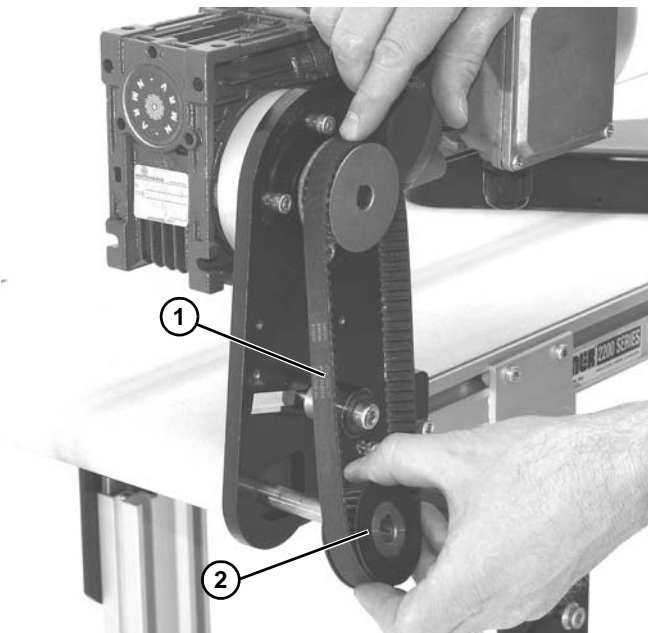

Figure 24
3. Remove timing belt (**Figure 24, item 1**).
If timing belt does not slide over pulley flange, loosen driven pulley set screws (Figure 24, item 2) and remove pulley with belt ((Figure 24, item 1). For re-installation, see steps 7 and 8 on page 12.